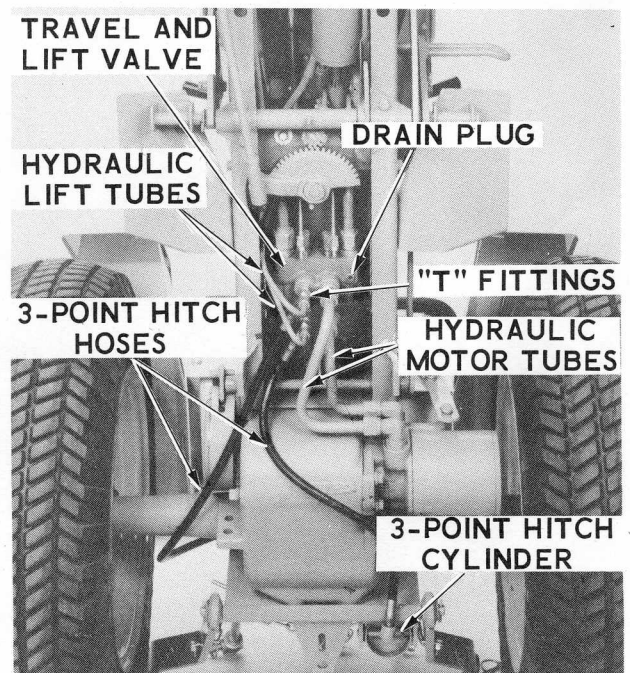

Figure 5. Hydraulic Connections
4. Place a clean pan under the tractor travel and lift valve. Remove the drain plug shown in Figure 5 to drain the system. Leave the pan under the tractor while disconnecting and installing the hydraulic lines to keep oil from dripping on the floor.
7. Turn the "T" fittings into the lift ports of the valve. With the fittings facing towards the right rear corner of the tractor as shown in Figure 5, tighten the swivels against the valve housing.